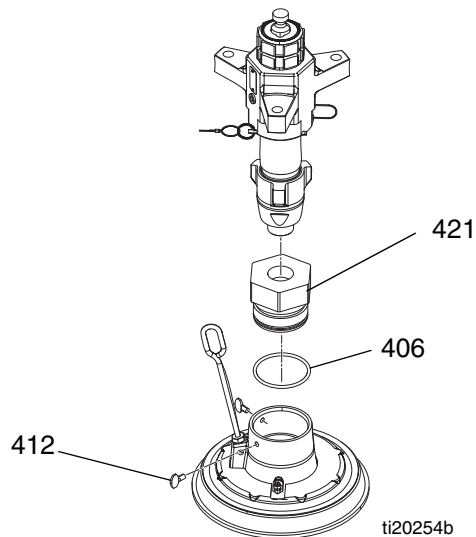

FIG. 15
1. Apply grease to o-ring (406) then install the o-ring on platen adapter (421). See FIG. 15.
2. Apply pipe sealant to pump inlet thread then thread onto adapter (421).
3. Loosen thumb screws (412) then carefully lower pump onto platen.
4. Tighten thumb screws (412) to secure platen to adapter.